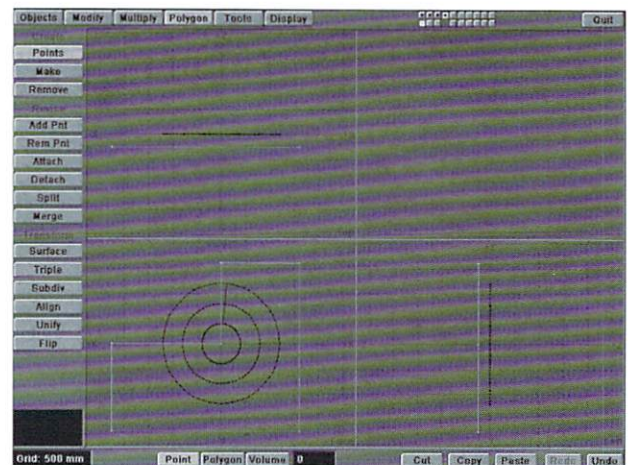
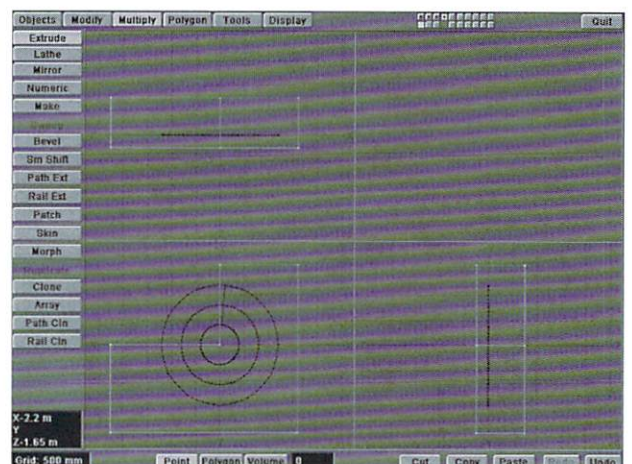

Figure 6: An L-shaped polygon to be used as a cutting tool.
Figure 7: The L-shaped polygon extruded.
- Select a new layer and place the disk in the background. Using the Points tool in the Polygon panel, create an L-shaped polygon (Figure 6) and extrude it (Multiply panel) so that you get an object as shown in Figure 7. We will be using this object as a cutting tool, so be sure that it is properly positioned (the top of the object should not be on the same plane as the disc).